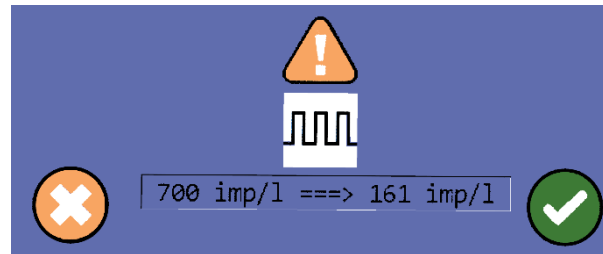

Figure 21
- AG-TRONIK then asks us for permission to correct the FC (Figure 21).